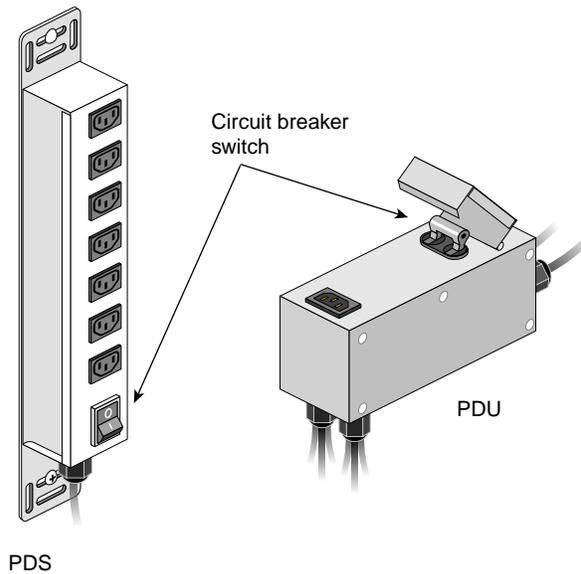

Figure 2-7 Assuring PDU or PDS Circuit Breaker Switches Are Turned On
4. Make sure that the PDU or PDS circuit breaker switch shown in Figure 2-7 is turned on to give power to the server system when the server is powered on.